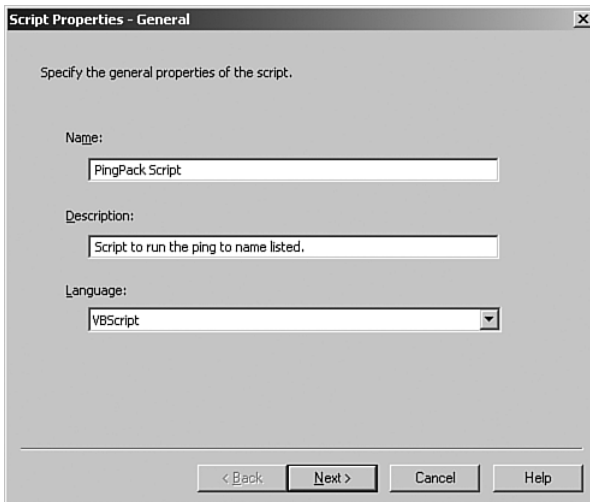

FIGURE 20.23 Script properties.
6. Create a new script. You can name this the PingPack Script. Use the information displayed in Figure 20.23 to fill in the Script Properties on the General tab. Be sure to specify the language as VBScript.